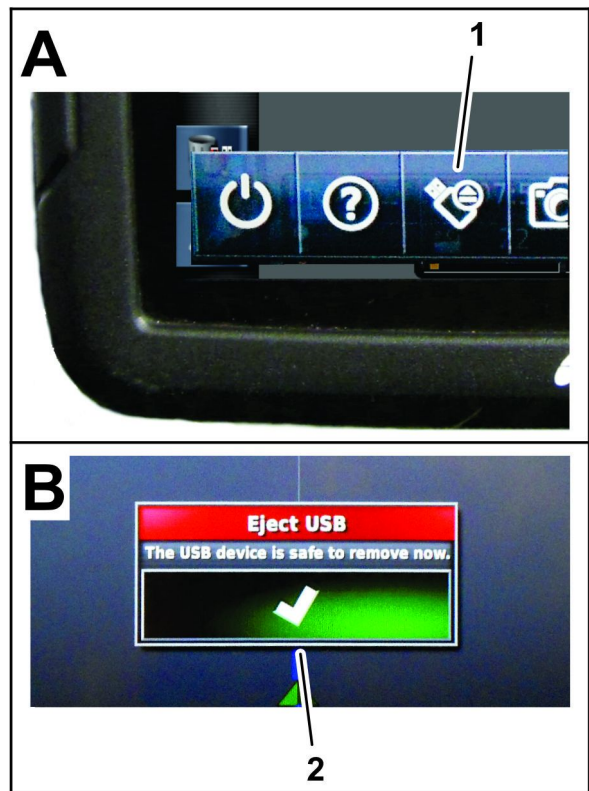

Figure 23
4. At the bottom of the control console screen, swipe up to access the floating-menu bar (Figure 23).
5. Press the eject USB icon (Figure 23).
6. At the eject USB dialog box, press the confirm icon and remove the USB storage device from the control console (Figure 23).